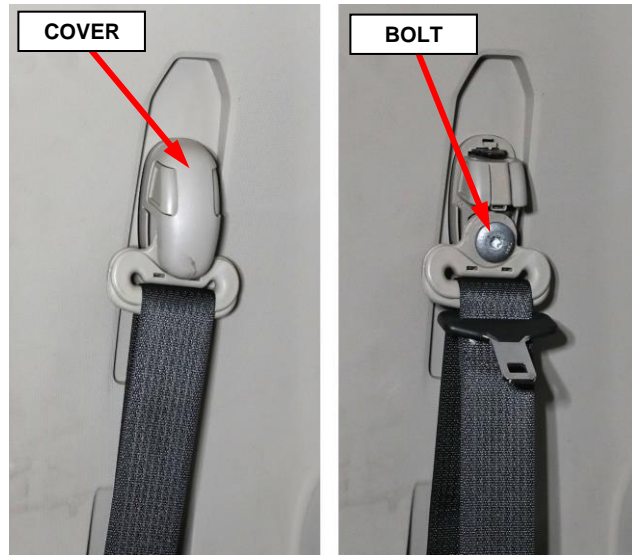

Figure 71 – Seat Belt Turning Loop
7. On the B-pillar, separate the seatbelt turning loop cover then remove the turning loop bolt (Figure 71).